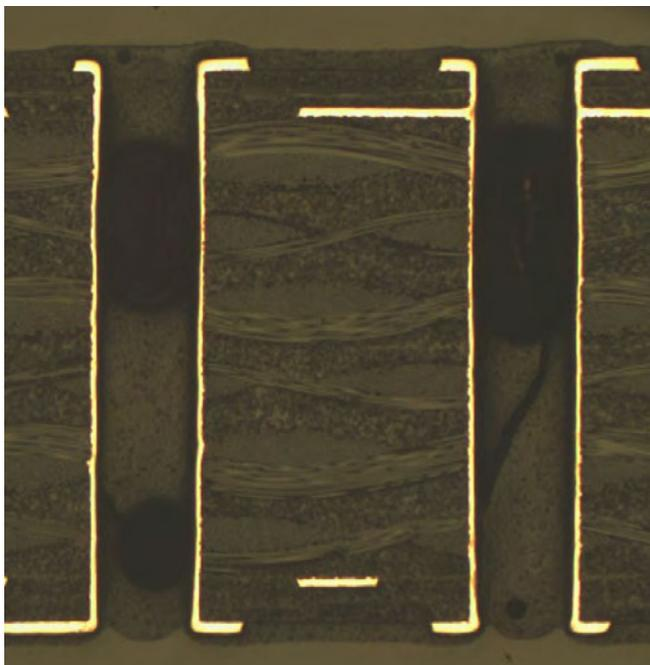

Figure 3: Type V via, filled.
- **Type V**—Filled: A via with material applied into the via targeting a full penetration and encapsulation of the hole (Figure 3)